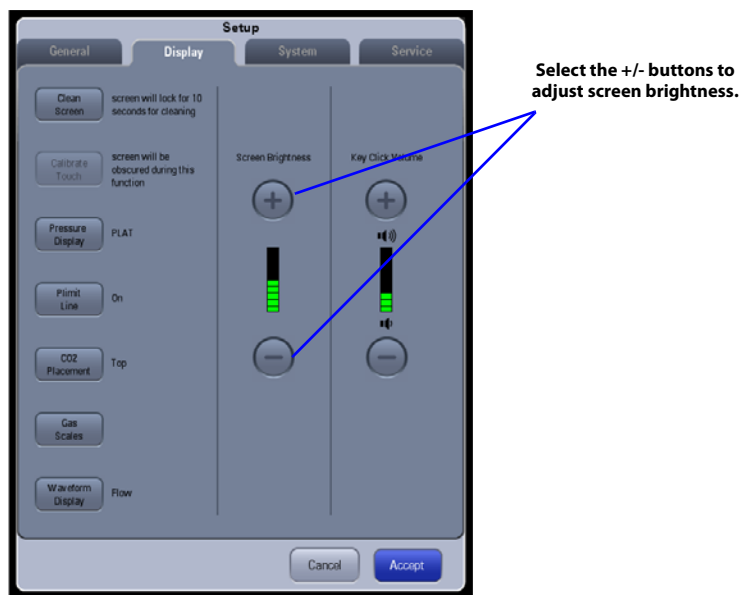

FIGURE 3-41 A5/A3 Display Tab> Screen Brightness Area
The **Display** tab provides access to screen cleaning, screen calibration, pressure parameter display, CO2 waveform placement, gas scales, waveform display, screen brightness and key click volume (see FIGURE 3-41).
1. Select **Setup** softkey > **Display** tab (See FIGURE 3-41).